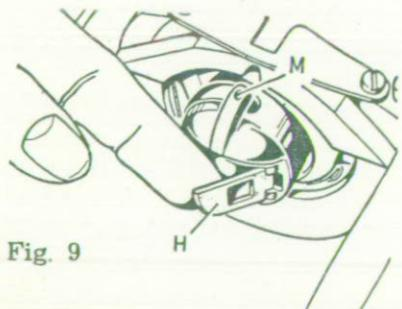

Fig. 9
- Insert bobbin case by latch « H » (Fig. 9) and place it on centre stud of shuttle. Finger « M » must go into notch of shuttle ring;